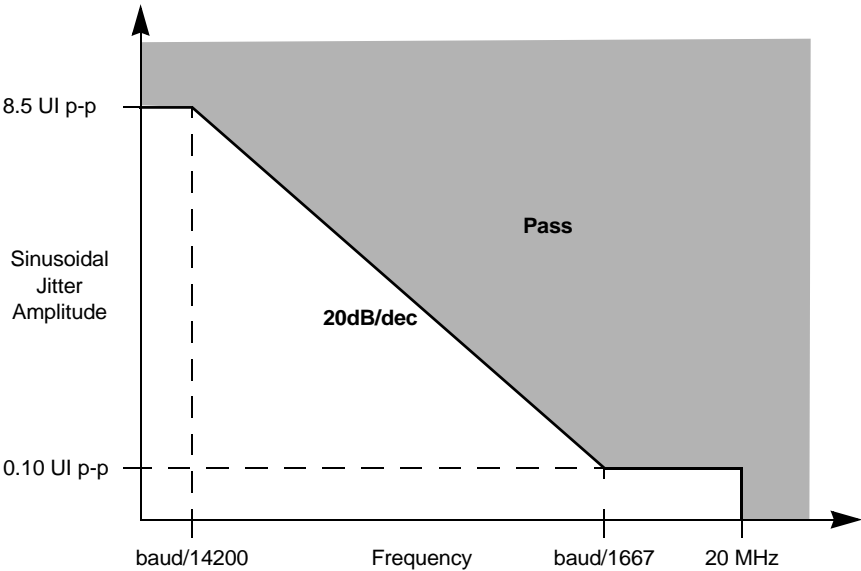

Figure 16. Single Frequency Sinusoidal Jitter Limits for Data Rates for 3.125 Gbps and below
2. Total jitter is composed of three components, deterministic jitter, random jitter and single frequency sinusoidal jitter. The sinusoidal jitter may have any amplitude and frequency in the unshaded region of Figure 16. The sinusoidal jitter component is included to ensure margin for low frequency jitter, wander, noise, crosstalk and other variable system effects.